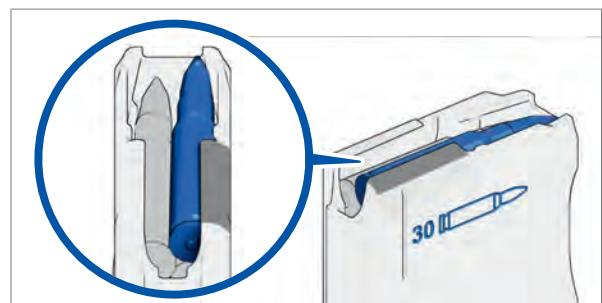

Fig. 87: Position of the last cartridge
4. Repeat steps 2. - 3. until the magazine is full (Fig. 87).